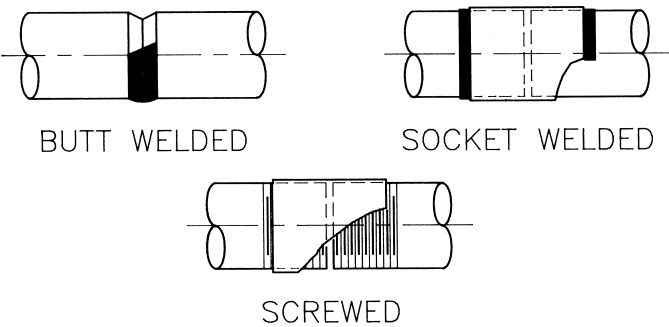

Figure 2-7. Pipe joints.
There are several methods for joining pipe together. The three methods we will focus on are those most widely used in piping systems made of carbon steel, as shown in Figure 2-7. They are butt-welded (BW), screwed (Scrd), and socket-weld (SW). Later in the chapter, cast iron and plastic pipe uses will be discussed.